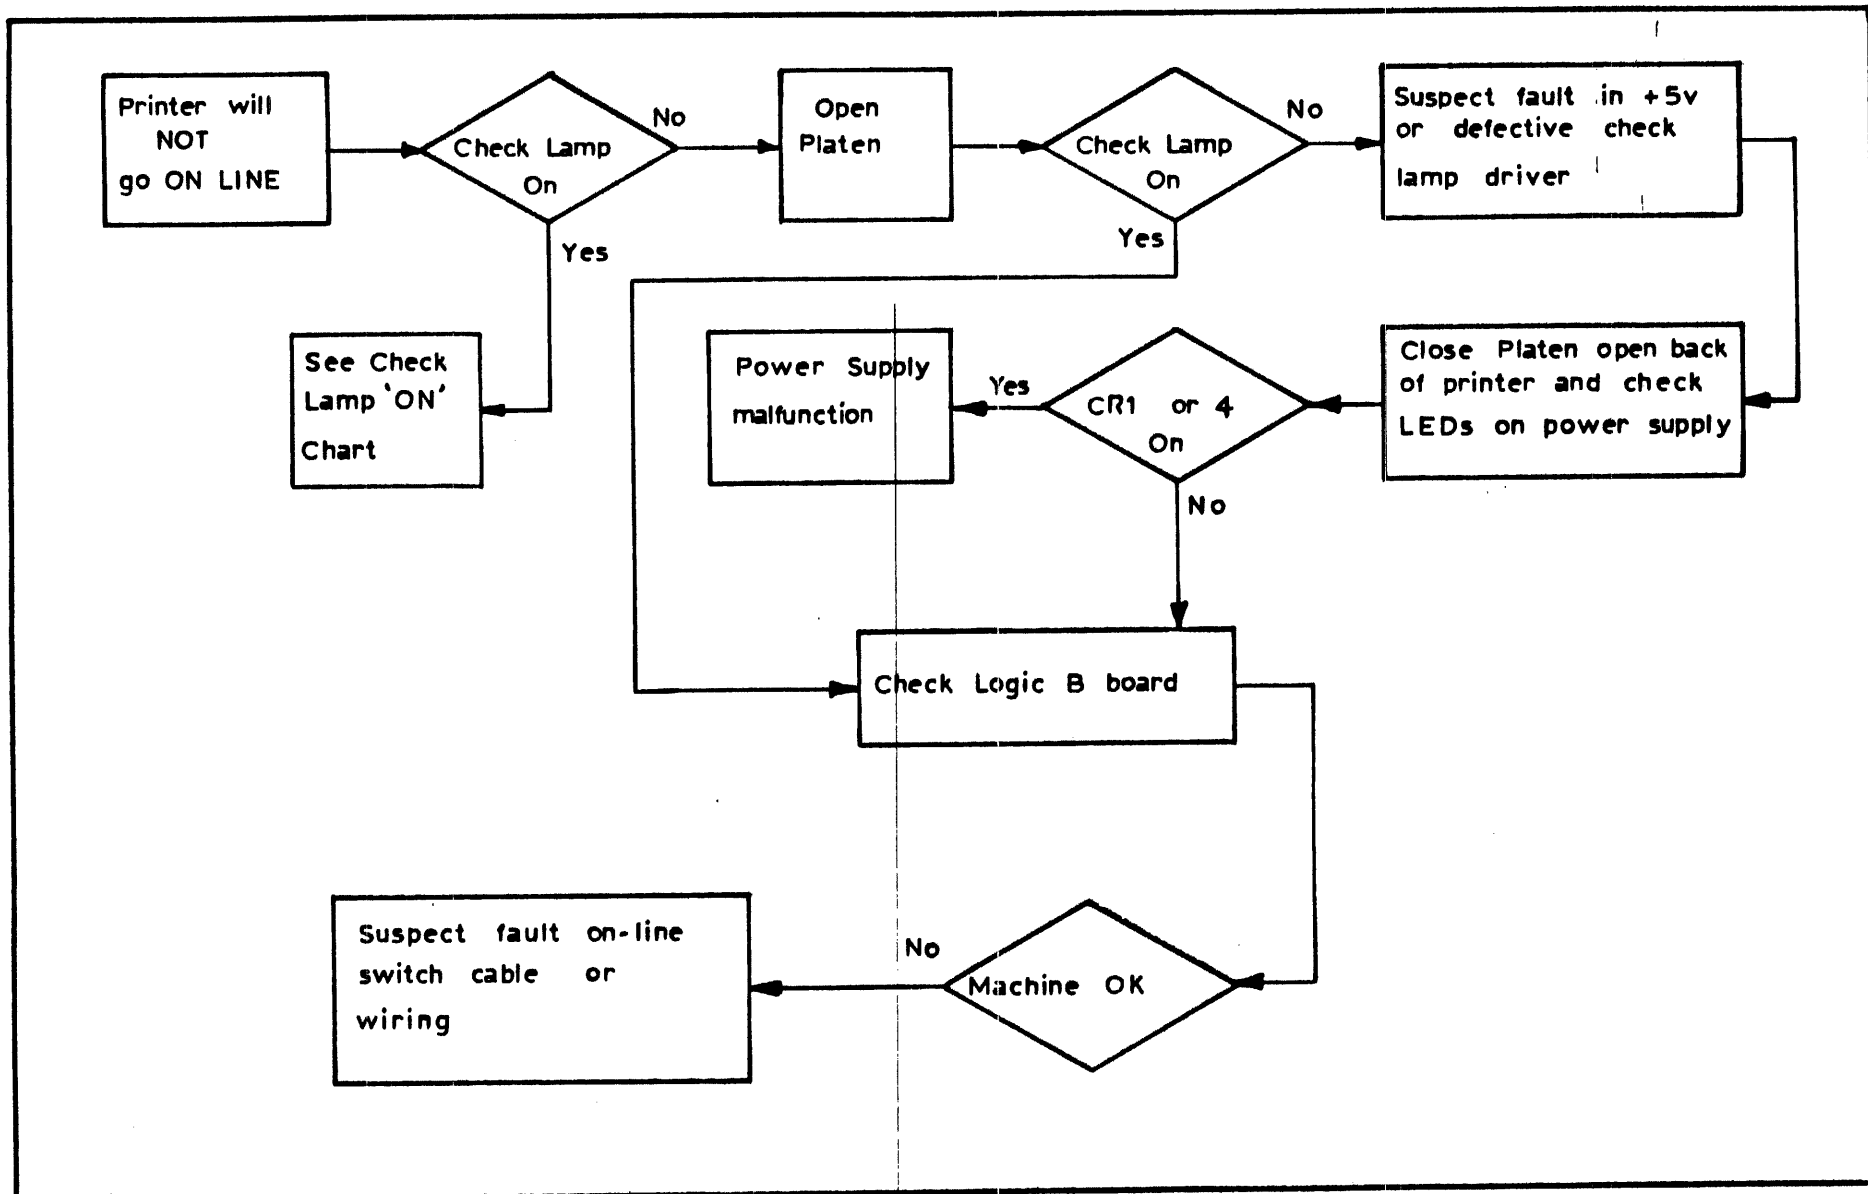

Figure 59 Printer Will Not Go On Line Flow Chart
- Printer Will Not Go On Line (Figure 59)